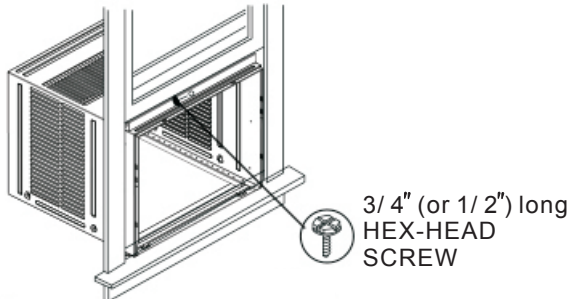

Fig.17A
4. Attach the top angle to window frame: Use a $3/32$ " drill bit to drill one hole through the hole in the middle of top angle into the window frame, and drive one $3/4$ " (or $1/2$ ") HEX-HEAD locking screw through hole in the middle of top angle into the window frame as shown (Fig.17A)